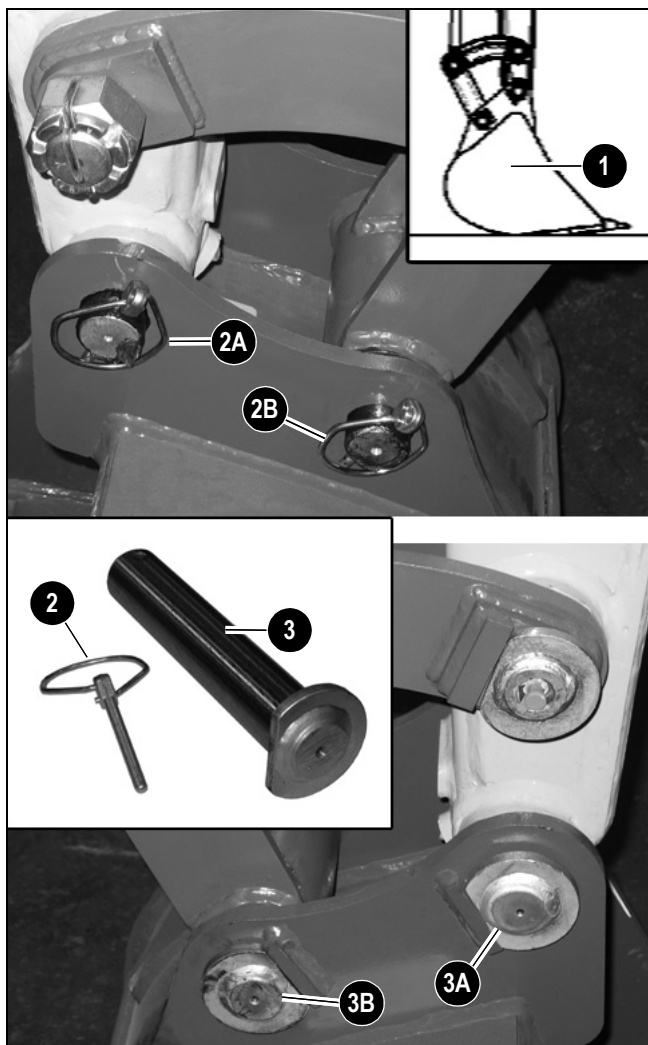

Figure 3-34 Bucket Removal/Mounting
1. Lower the bucket to the ground with the flat side down (1, Figure 3-34).
3. Remove the two lynch pins (2A and 2B, Figure 3-34).
4. Remove the lower securing pin first (3B, Figure 3-34) and then the other (3A). Carefully remove the pins with a hammer and brass punch if they are stuck. After pin 3B is removed, pin 3A might have more pressure applied against it, making it difficult to remove. If this happens:
4. Insert the upper securing pin first (3A, Figure 3-34). If needed, use a hammer and brass punch to gently tap the pin through the hole. Insert a lynch pin (2A, Figure 3-34) through the hole in the pin and lock.
The flat side of each securing pin head must align with the flat guide on each side of the hole; see 3A and 3B in Figure 3-34 for how the pins look when properly installed.
5. Insert the lower securing pin (3B, Figure 3-34). If needed, use a hammer and brass punch to gently tap the pin through the hole. Insert a lynch pin (2B, Figure 3-34) through the hole in the pin. Lock the lynch pin securely in place.